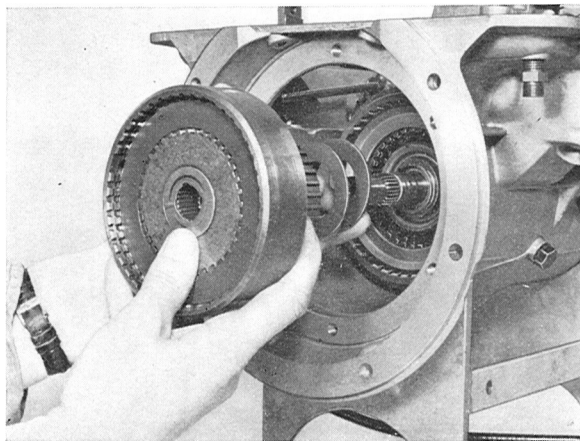

Fig. 4-121. Installation sequence, front clutch cylinder, thrust and backing washers
17. Install the clutch assembly with its two different thrust washers in the transmission, see Fig. 4-121.